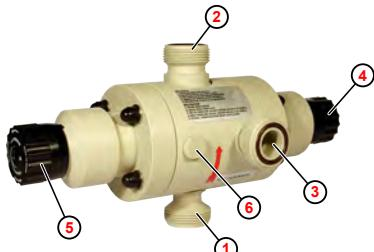

Fig. 1: Structure of the MFV III-IV, model 4, 5
I *The same steps described here apply to all connections (input, output and bypass). (Fig. 1 ①, ②, ③).*